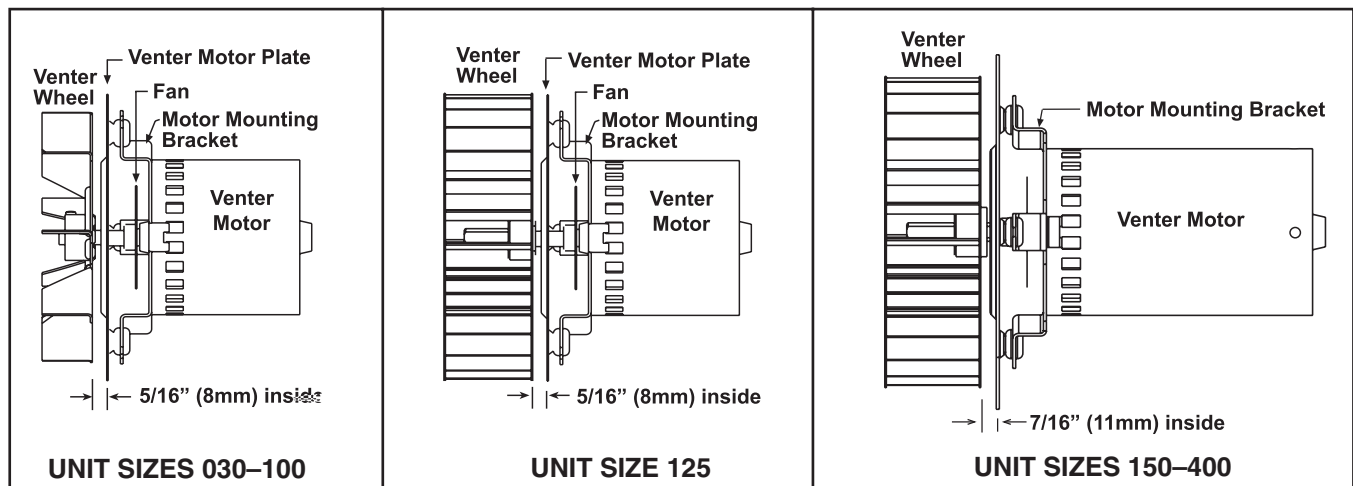

Figure 19. Venter Motor and Wheel Assembly
6. Reassemble with replacement venter motor and wheel. Ensure that venter wheel is properly positioned on shaft (see Figure 19).